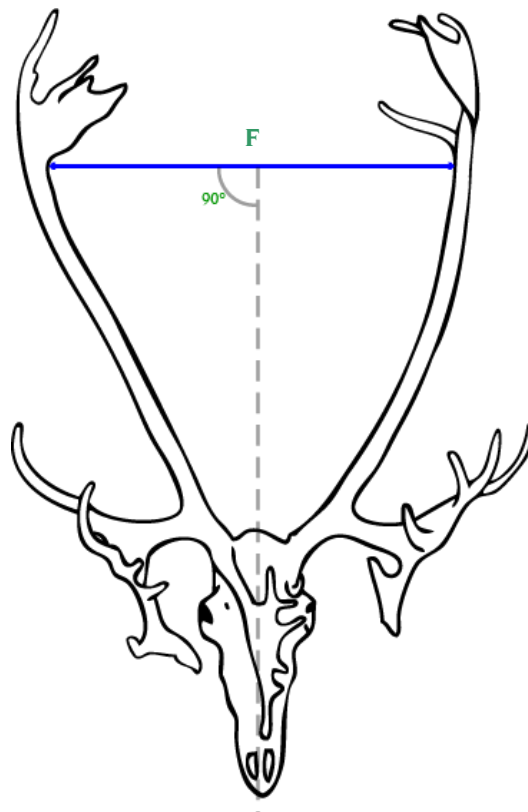

Figure 4
8. Span. Measure the widest inside span of the antler main beams at 90-degree angle to the long axis of the skull (Figure 4, F). Use a carpenter’s extension ruler for this measurement.